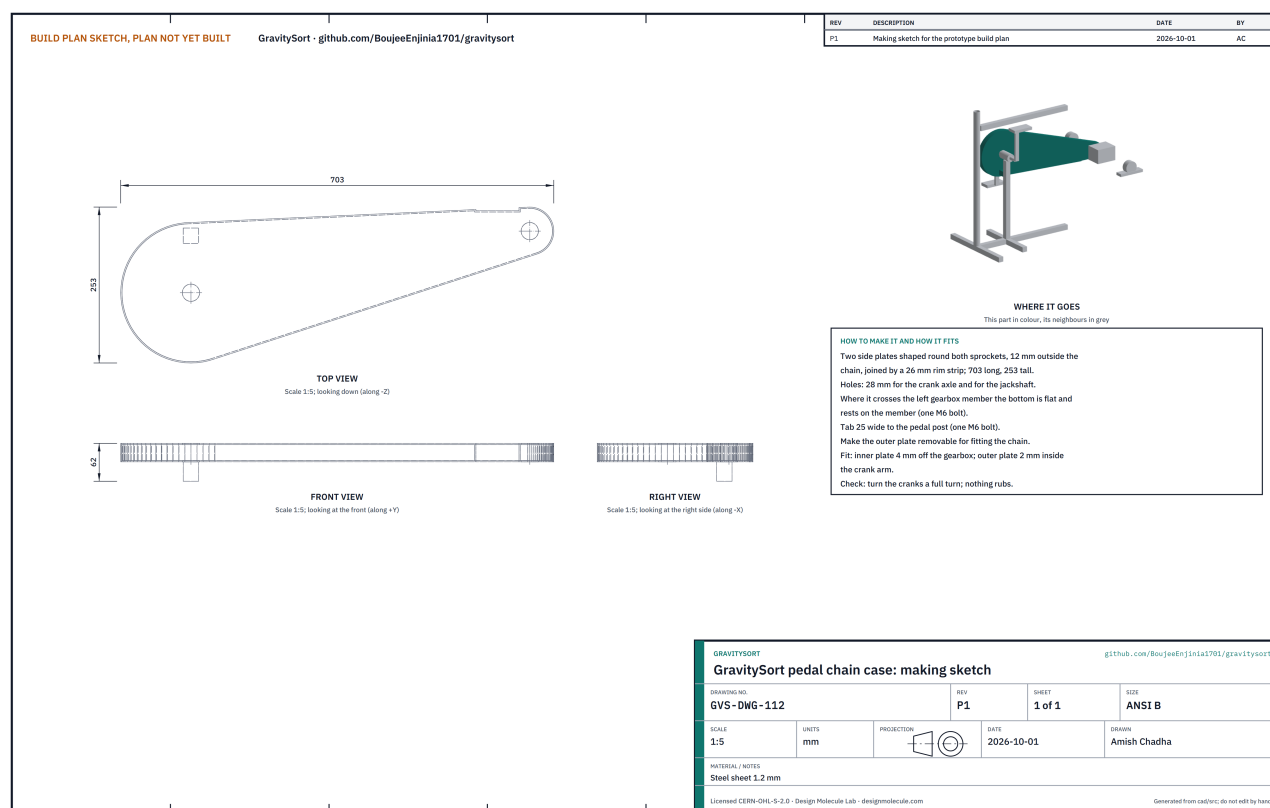

Figure 23. Pedal chain case making sketch (GVS-DWG-112).
1. Cut two side plates to the outline of Figure 23 (round both sprockets, 12 mm outside the chain), 703 long and 253 tall.